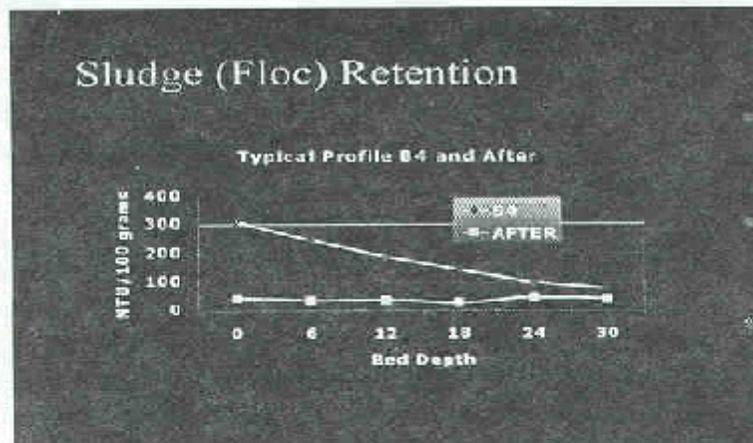

Figure 1
Figure 1 is an example of a before and after backwash solids retention plot for a dual media filter that has 12 inches of 0.5 mm E.S. sand and 18 inches of 1 mm E.S. anthracite. The before plot shows that there is good penetration of floc material into the depth of the bed, and that there is extra capture of material at the interface of the sand and coal area. This is typical of a dual media filter which is operated at 4 gpm/sq.ft.
The appropriate backwash rate to create an expanded-bed porosity of 0.7 can be determined using a number of computer backwash models. One model developed by researchers is readily available in the literature (2). It should be noted that the viscosity of water plays a major role in the optimum backwash rate (i.e., the colder the water temperature, the lower the required backwash rate). Therefore, the optimum backwash rate should be determined for two to four water temperatures to assure adequate backwashing year-round. This is illustrated in **Table 1** for several filter-media configurations that are commonly used in Ohio WTPs. Please note in the last column of Table 1 - while percent bed expansion is a practical means of checking the backwash rate and is the same at all water temperatures for a given filter-media configuration, the optimum percent bed expansion is not the same for all filter-media configurations. **Figure 1** shows the appropriate backwash rate for various water temperatures for a few common filter media used in Ohio.